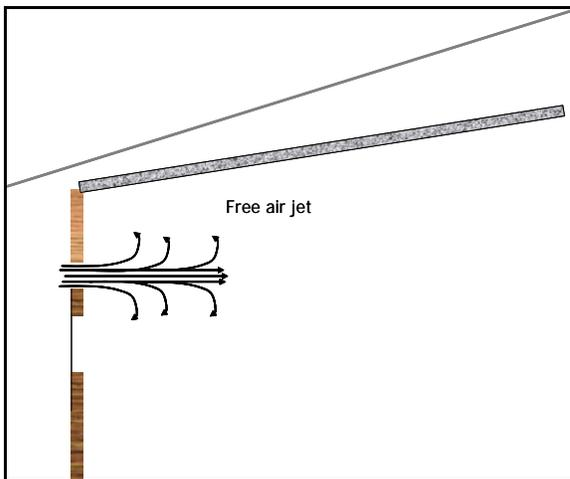

Figure 8. “Free” inlet air jet.
- 5) Circulation fans should be installed as close to the ceiling as possible. A circulation fan installed against a ceiling will throw air significantly further than one that is a foot or more below the ceiling. The reason for this is that a jet of air, whether it is coming from an inlet or a fan, has less “friction” working against it if it can “attach” to a ceiling. This is one of the reasons why side wall air inlets should be positioned as close to the ceiling as possible. The cold fresh air entering a house attaches to the ceiling and as a result is thrown further into the house improving the distribution of fresh air throughout a house (Figures 8 and 9). When a circulation fan is placed next to the ceiling it will throw air further. Whereas a fan positioned a foot or more below the ceiling may only move air 40 to 50 feet, the same fan next to the ceiling may blow air 60 to 70 feet.